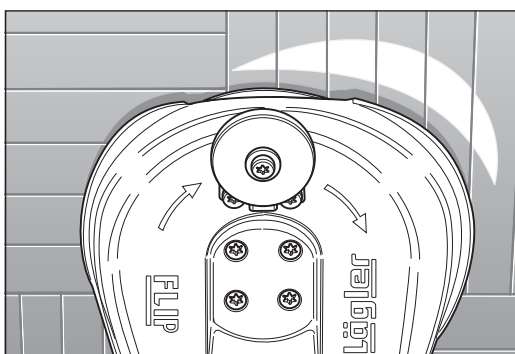
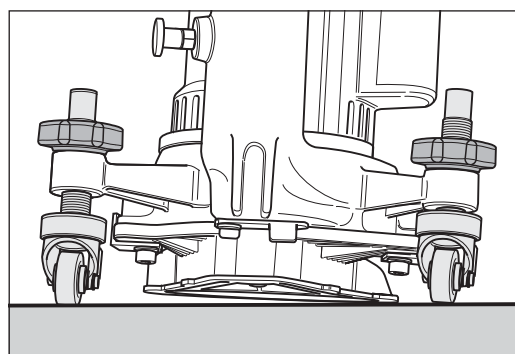
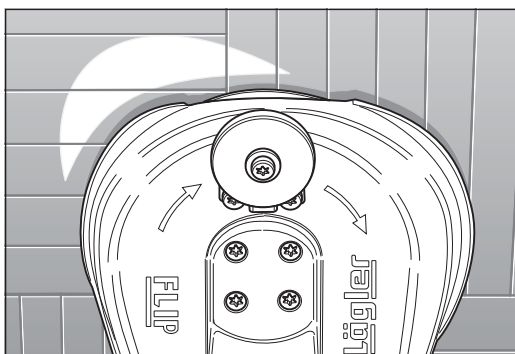
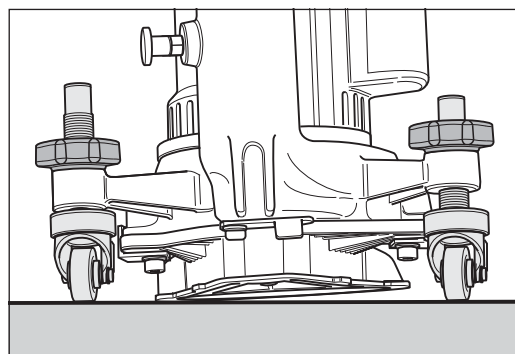

Fig. 60 Improper adjustment of the guide rollers:
Fig. 61 The sanding zone of the machine is too much to the **right**:
Fig. 62 Improper adjustment of the guide rollers:
Fig. 63 The sanding zone of the machine is too much to the **left**:
- 9 If the machine sands too much to the right (fig. 60) or to the left (fig. 62), the guide rollers are **not adjusted to the same height** (fig. 61 and fig. 63)!